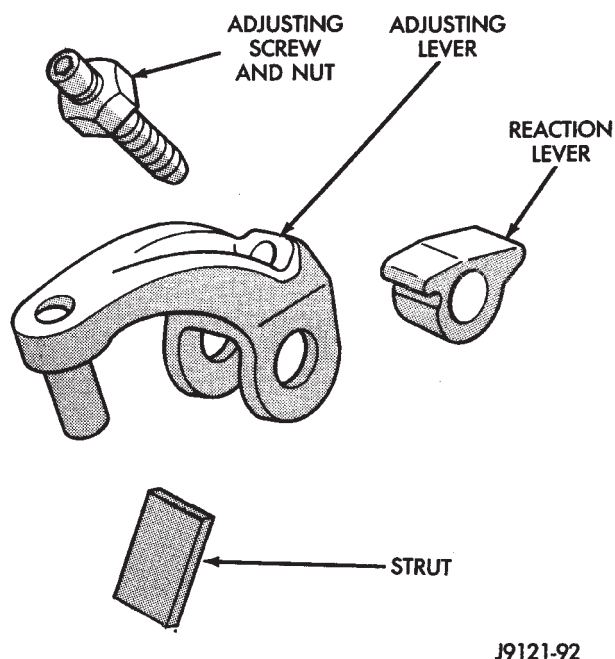
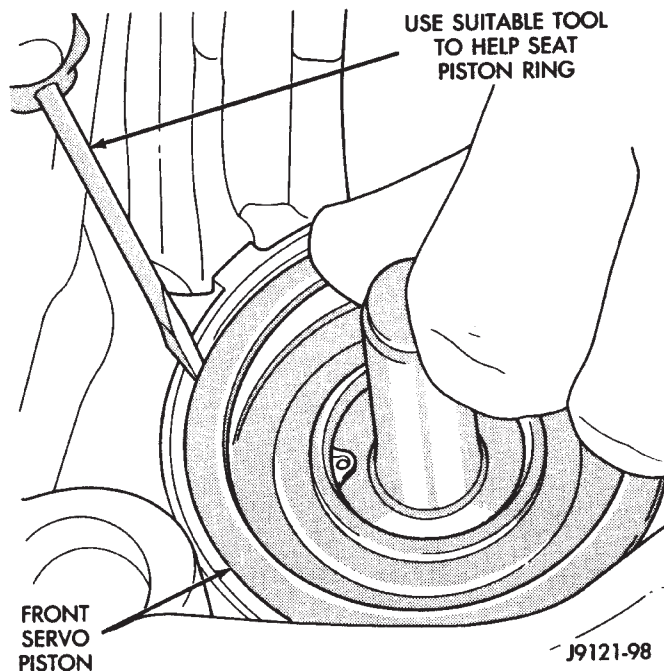

Fig. 138 Rear Band Levers And Strut—46RH
Fig. 139 Installing Front Servo Piston—46RH
(12) Install rear band adjusting lever, strut and reaction lever (Fig. 138). Be sure levers and strut are aligned and engaged before seating band reaction pin in case.
(13) Lubricate front servo piston components and servo bore in case with transmission fluid.
(14) Install front servo piston in bore. Carefully work small, suitable tool around piston ring to press it back into groove and ease installation (Fig. 139). Rotate piston into bore at same time. Rock piston slightly to ease piston ring past snap ring groove and into bore.
(15) Bottom front servo piston in bore and install servo spring.
(16) Install front servo piston rod guide as follows: